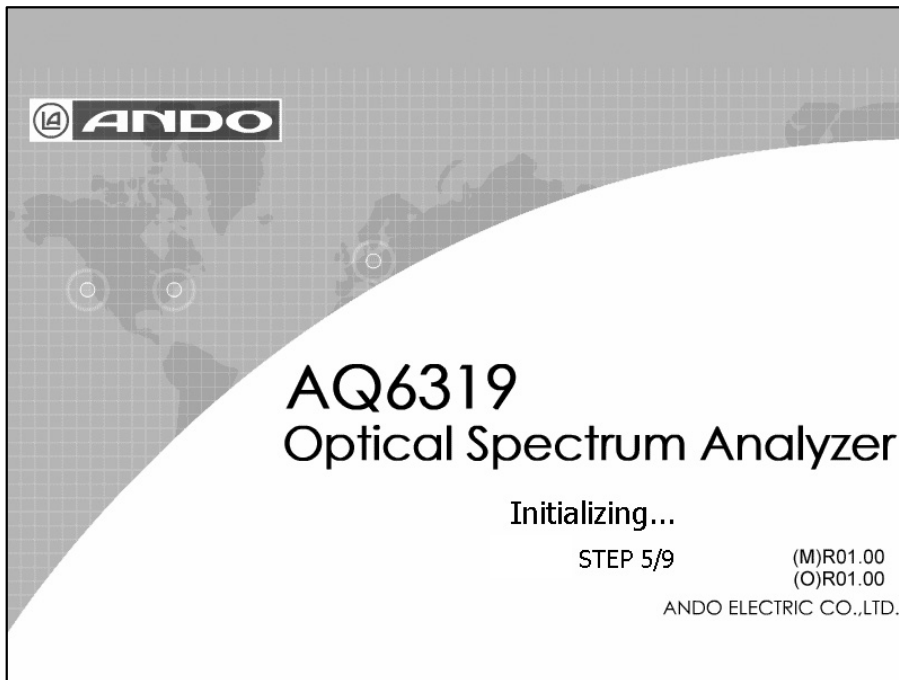
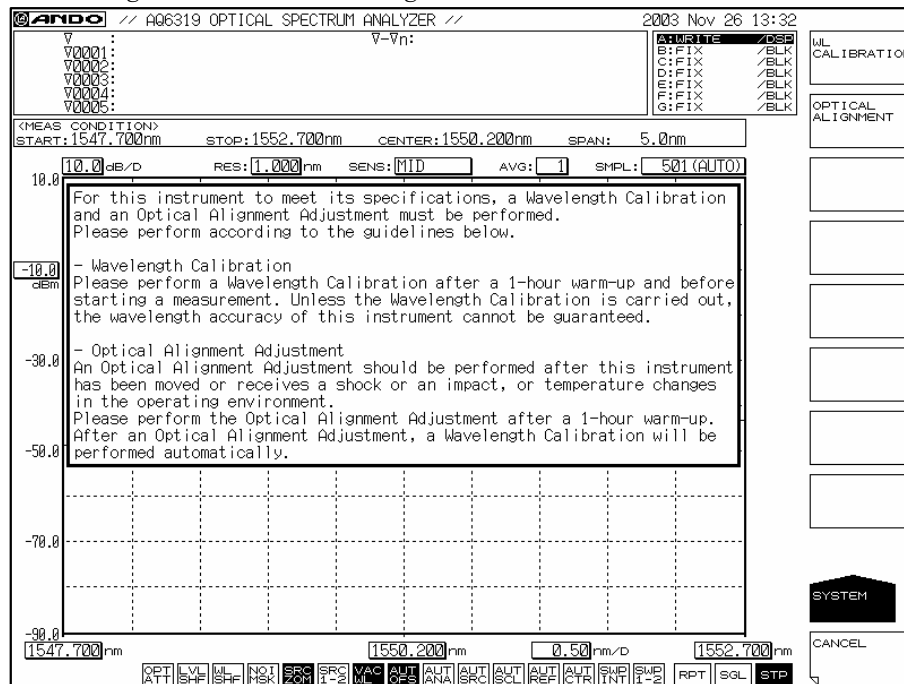

Fig. 3-6 Initialization screen
Fig. 3-7 Message screen after the initialization operation
- If a problem such as a memory problem occurs during ④, the boot step display and the system's operations will stop. If this happens, the unit will need to be repaired. Immediately contact our service department, the sales department at our main office, or the nearest branch office or sales office. (☛ Contact information is listed at the end of this manual.)
- ⑤ After the initialization operation ends, the screen in Fig. 3-6 disappears and the screen in Fig 3-7 appears, displayed message which urge optical alignment and wavelength calibration.